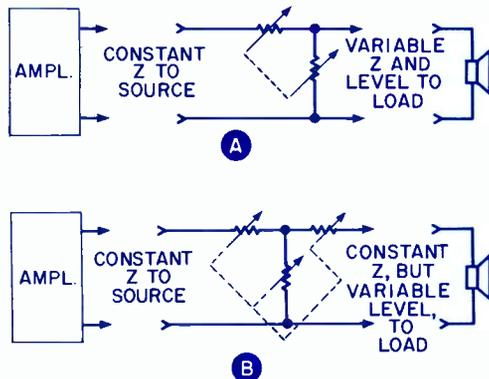

FIG. 4. Variable audio pads: (A) L-pad; (B) T-pad.
Where audio is distributed to many speakers and it's desired that each speaker have an independent volume control, pads are used. As Fig. 4(A) illustrates, an L-pad maintains con-
stant impedance at the input (line side) while varying the impedance, and the signal, to the speaker. This permits the speaker to take various amounts of signal from the line without changing signal level to the other speakers. For exact matching and best frequency response, however, a T pad is used, as in Fig. 4(B). The T maintains constant impedance at input and output. It's a little more expensive than the L, and both cost more than carbon pots. They come in the usual audio impedances: 4, 8, 16, 100, 250, and 500 ohms are the most common. All become dirty (noisy) after a while and are difficult to clean. The worst offenders in this respect are the lower values, and for this reason many PA technicians like to install 500-ohm pads on the line side of speaker-matching transformers, which minimizes noise. Nearly all pads will handle 10 watts of audio, some more.